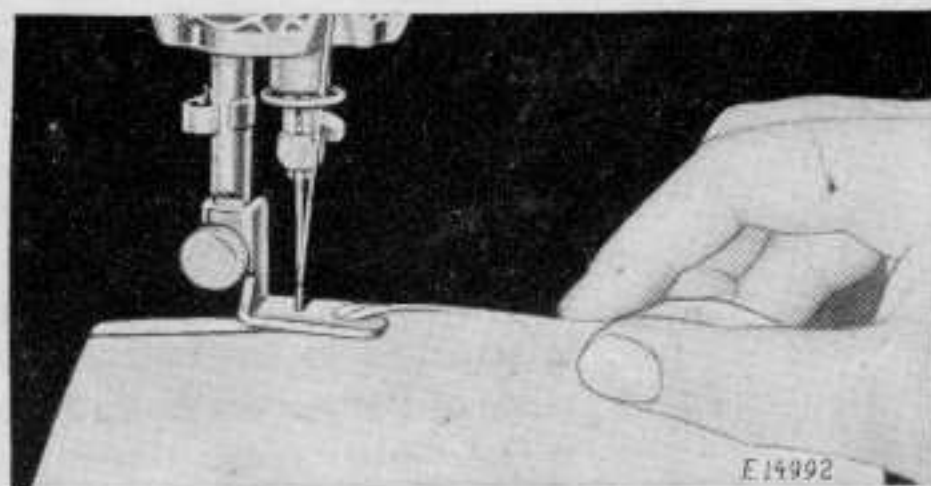

FIG. 26. STARTING A HEM AT THE EDGE
3. Draw the material toward you through the Hemmer, as shown in Fig. 26, at the same time making the second fold at the very edge. Continue to draw the material through the Hemmer until the edge is just under the needle. Place the upper and lower threads together under the Hemmer foot and assist in starting of the hem by slightly pulling the threads from the back as the machine is run.